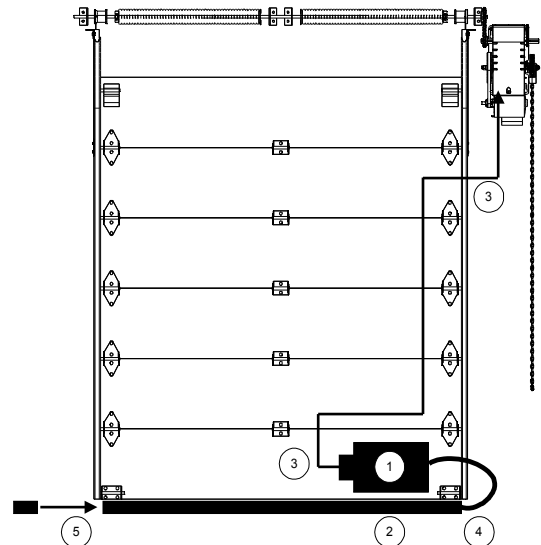

Figure 31 - Reversing Edge
1. Place the air switch in position, refer to Figure 31.
1. Place the junction box in position, refer to Figure 31.